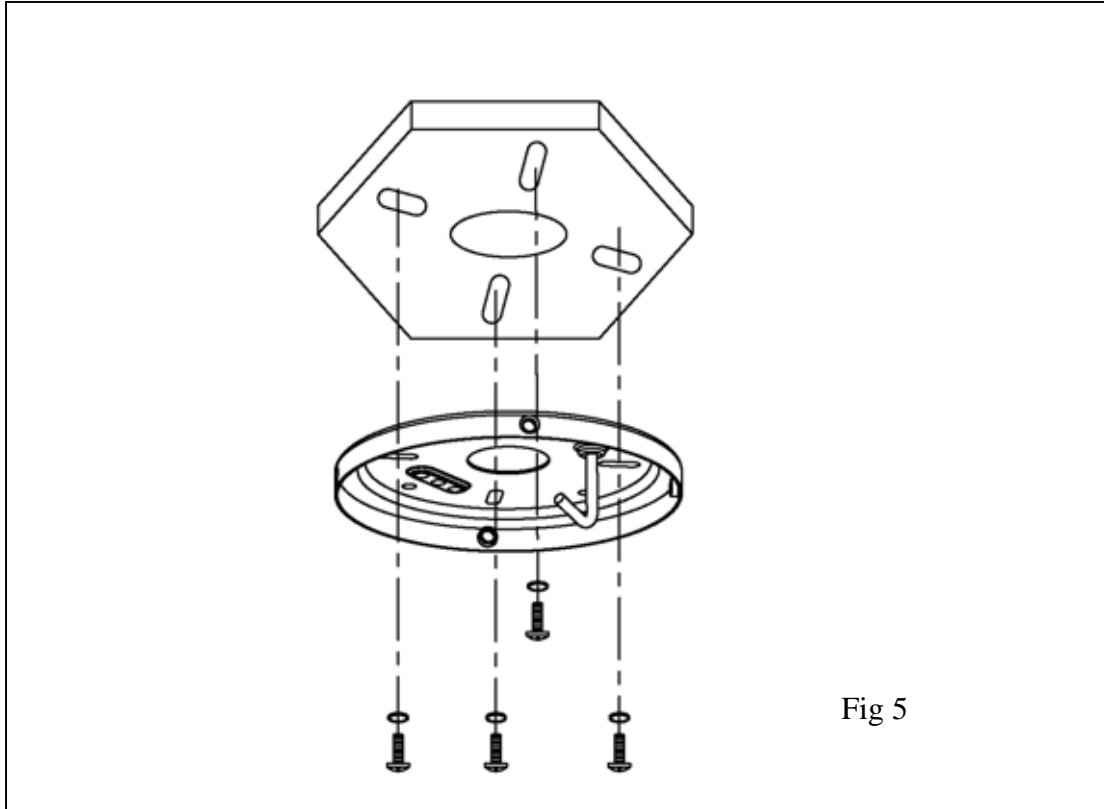

Fig 5
2. Attach hanger bracket to outlet, box using screws provided with the outlet box (Fig. 5)